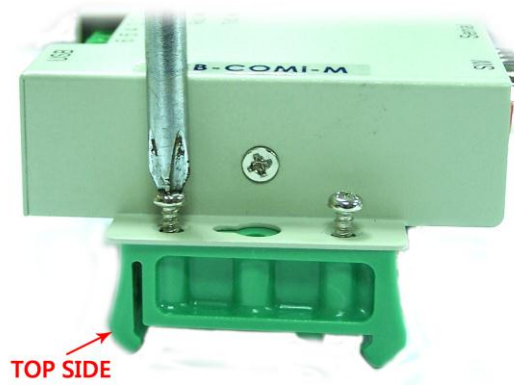

Fig.2
3. Insert the screws provided in the package into the holes on the DIN rail bracket, and tighten the screws to the clip (Fig.2)